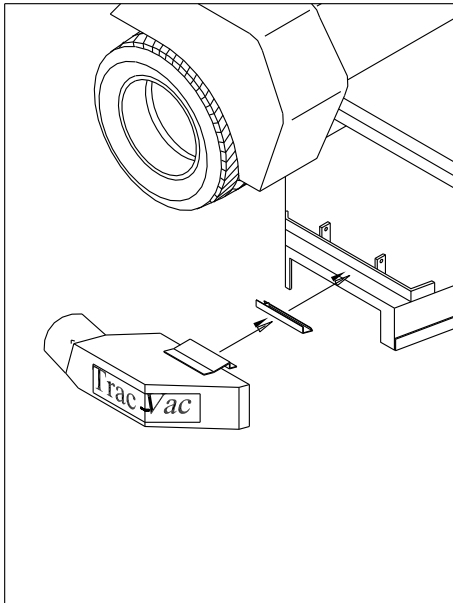

Fig. 13
12. Attach chute to mower deck. The chutes are also deck specific so your chute may look and attach differently than what is pictured. Usually the chutes require mounting an adapter to the deck to accept the bracket on the chute or for the chute to pin into it. Most of the time the adapters pick up existing holes on the deck but occasionally they do not. If they do not clip or pin the chute into the adapter, hold the chute up to the deck and adjust to the best fit. Once best fit is achieved, mark and drill holes through the deck, if 1/4" hardware is to be used drill with 9/32" bit, if 5/16" hardware is to be used drill with 11/32" bit and if 3/8" hardware is to be used drill with 13/32" drillbit. After drilled, attach with hardware provide. **(Fig. 13)**